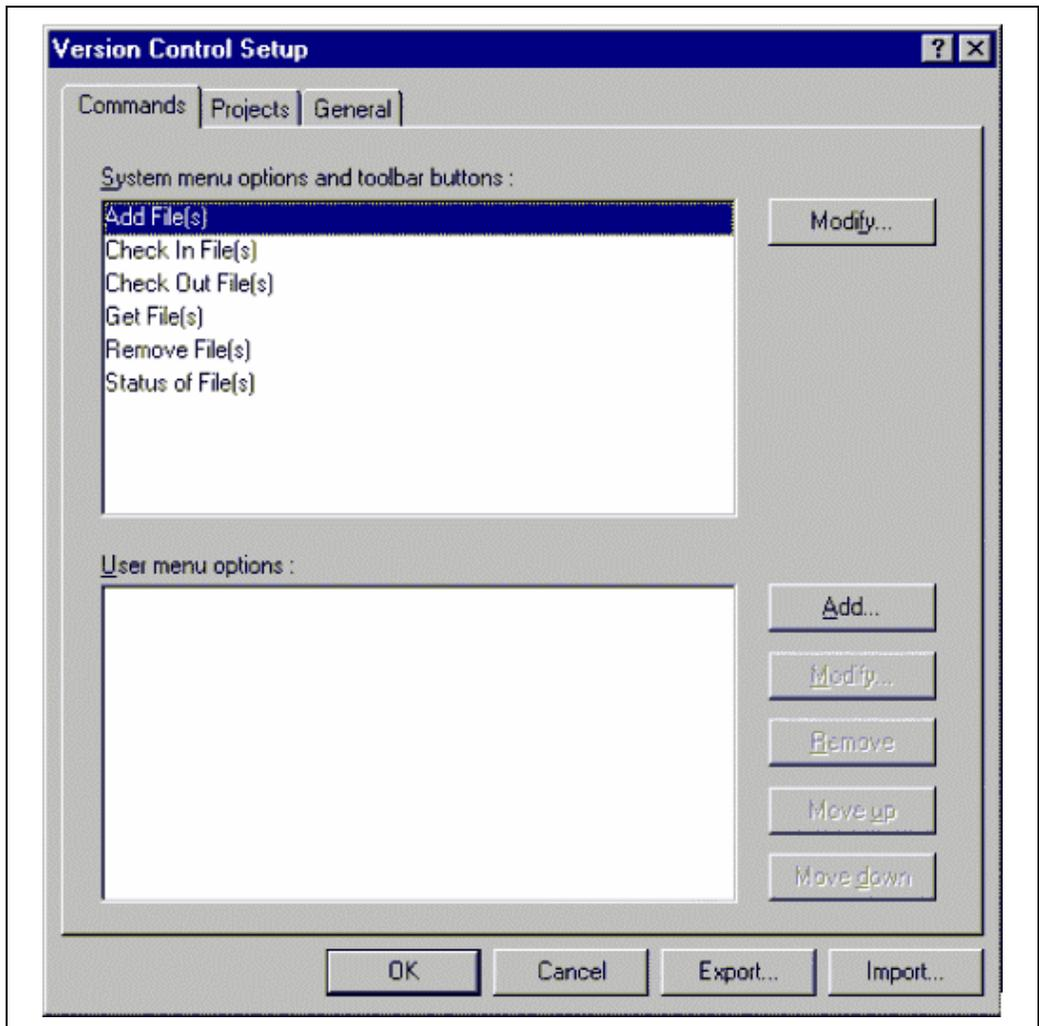
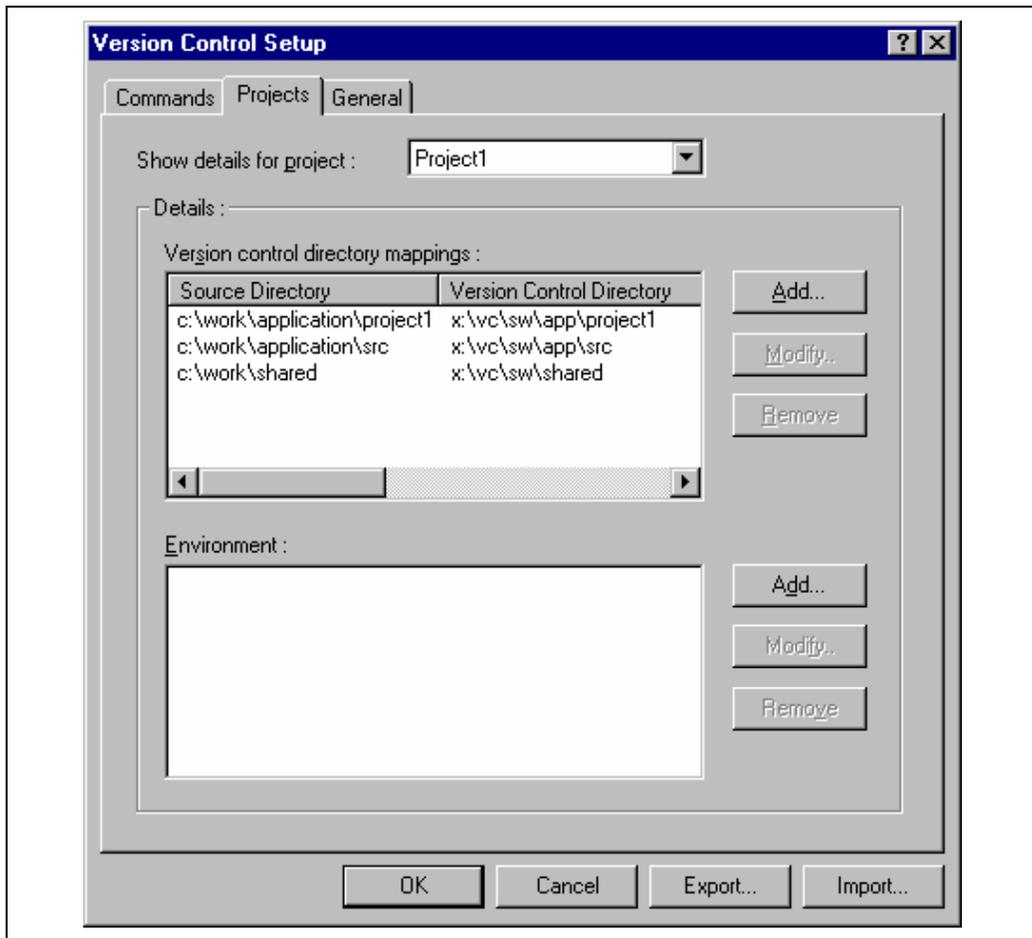

Figure 8.1: Version Control Setup Dialog Commands Tab
Figure 8.7: Version Control Setup Dialog Projects Tab
The custom version control support allows you the most flexibility in specifying how a version control system is to be used. To configure it, select [**Version Control->Configure...**]. The “Version Control Setup” dialog will be displayed (figure 8.1).
1. Select [**V**ersion **C**ontrol->**C**onfigure...]. The dialog shown in figure 8.1 will be displayed.
1. Select [**Version Control->Configure...**]. The dialog shown in figure 8.1 will be displayed.
However, when executed, this command can only ever get the file MAIN.C. To resolve this problem, HEW uses a system of placeholders and directory mappings. The latter tell the HEW which “working” directories (i.e. where source files are being worked on) map to which “controlled” directories (i.e. where the source files are stored in the version control system). Mappings between these two directory systems can be specified via the “Projects” tab of the “Version Control Setup” dialog (figure 8.7).
1. Select [**Version Control->Configure...**]. The dialog shown in figure 8.1 will be displayed. Select the “Projects” tab, and the dialog shown in figure 8.7 will be displayed.
1. Select [**Version Control->Configure...**]. The dialog shown in figure 8.1 will be displayed. Select the “Projects” tab, the dialog shown in figure 8.7 will be displayed.
Select the “Projects” tab of the “Version Control Setup” dialog to view the current settings (figure 8.7).